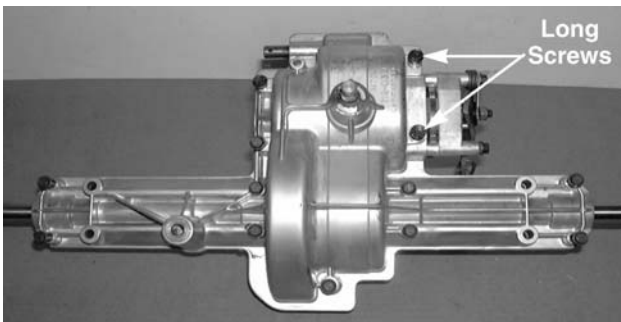

Figure 9-32
3. Remove all the self tapping screws that secure the two transmission case halves together using a 3/8 socket. See Figure 9-32.